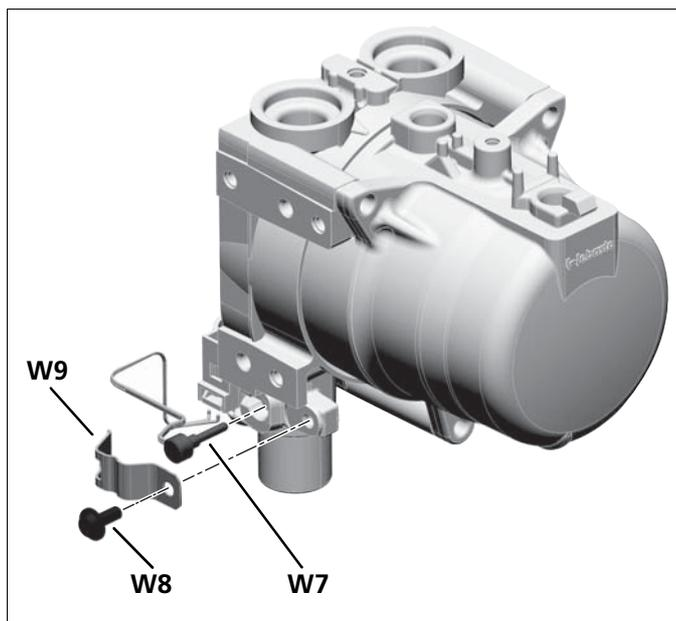

Fig. 40 Disassembly of exhaust gas temperature sensor
1. Insert exhaust gas temperature sensor (W7, Fig. 40) into the bore hole on the exhaust pipe of the heat exchanger.
2. Insert cable (W10) into the groove on the exhaust pipe and fix retaining spring (W9) with the screw (W8, Fig. 40). Tightening torque 4.0 ± 0.4 Nm.